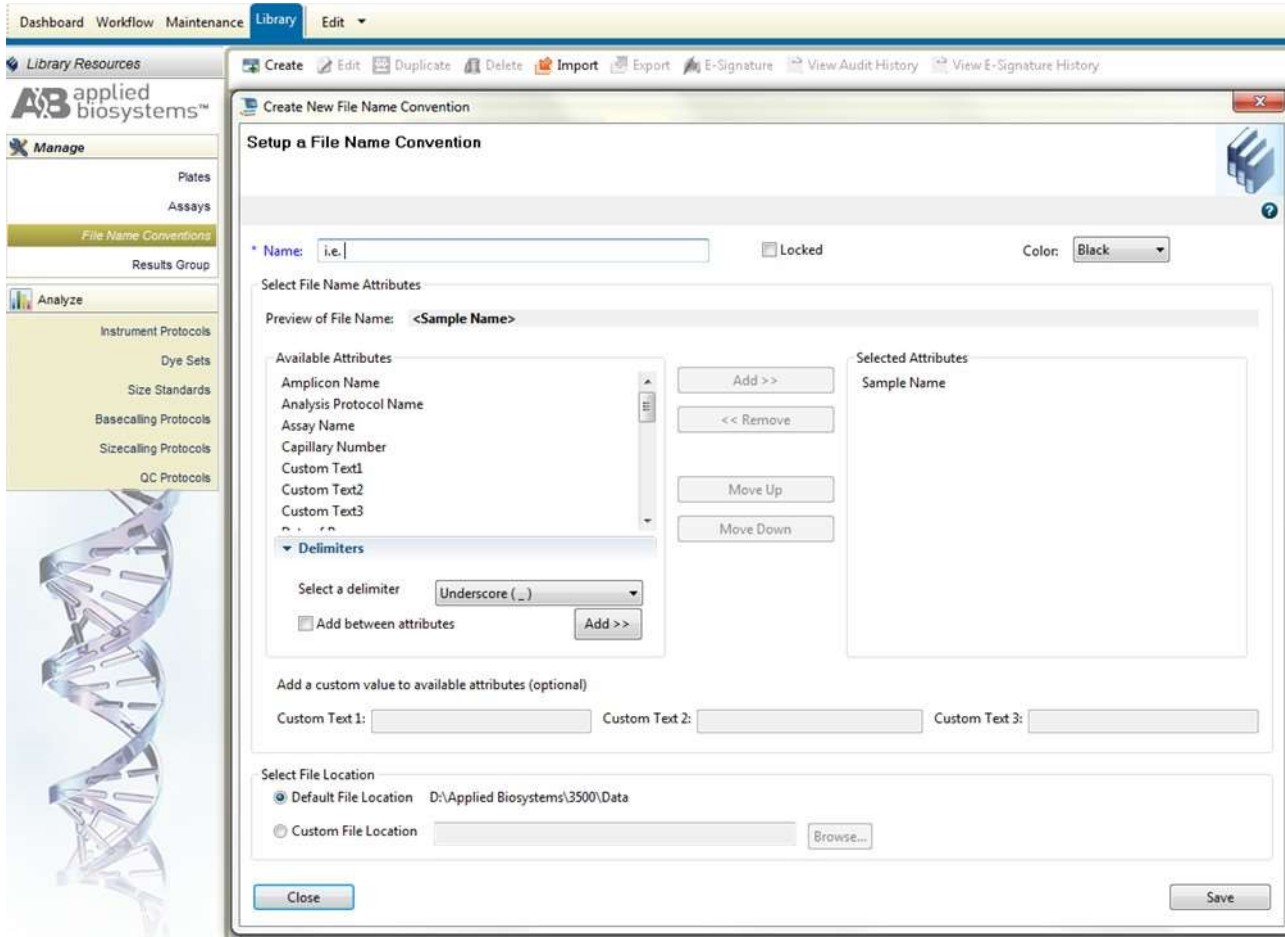

Figure 8. Screenshot for the “Create New File Name Convention” window on Applied Biosystems 3500 Data Collection software
- c) Select “*Create*” (Figure 8)